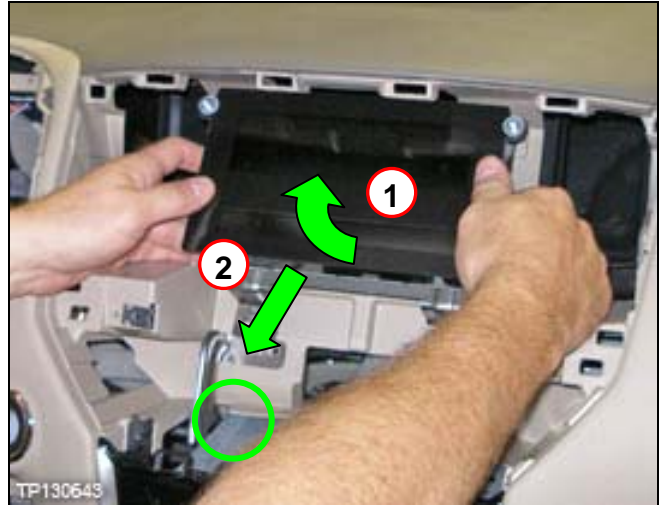

Figure 39
33. Swing up the display unit at the bottom, and then pull down (see Figure 39).